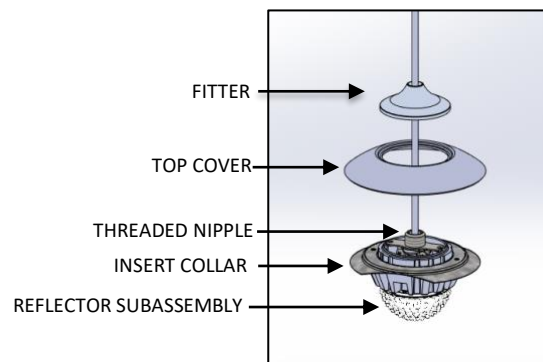

FIG. 12 – REFLECTOR DIS-ASSEMBLY
4. Unscrew the FITTER from THREADED NIPPLE and lift TOP COVER from the REFLECTOR ASSEMBLY as shown below in FIG. 12.